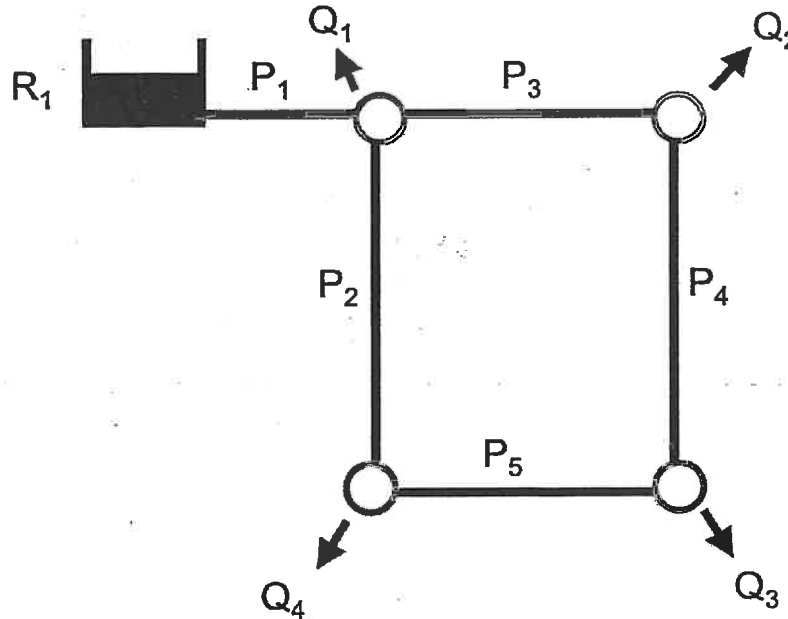

Figure 3. Water network with fixed-head reservoir.
3. The 5-pipe water distribution network shown in Figure 3 has a fixed-head reservoir (R_1) with water level of 70 m. The pipe (P_1) that connects the fixed-head reservoir to the rest of the network is 115 m in length, and has an inner diameter of 510 mm and a 'C' factor of 130. Pipes 2-5 have the following parameters: length = 400 m, Hazen-Williams 'C' factor = 130, and inner diameter = 203 mm. Node 1 is at elevation 5 m, Node 2 at elevation 10 m, Node 3 at elevation 25 m and Node 4 at elevation 15 m. Demand at Node 1